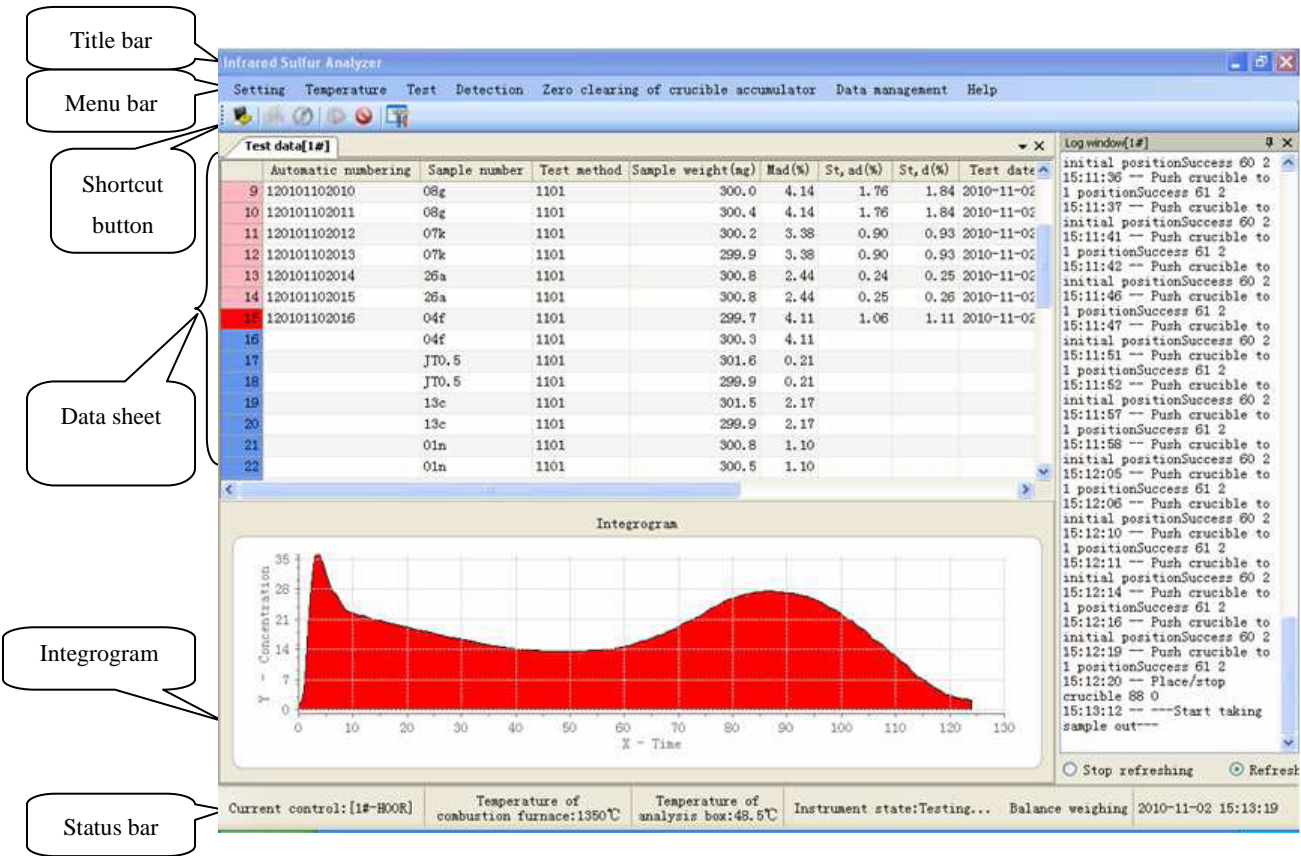

Fig. 4-1
**Method 1:** on the taskbar, click “Start”→ “Program” → select “MRC” → click “ELan-12 infrared sulfur analyzer”, and enter into main interface shown in Fig. 4-1.
**Method 2:** double click “ELan-12 infrared sulfur analyzer” icon on desktop, also can enter into measurement state as shown in Fig. 4-1.
The main forms of the measurement & control software of ELan-12 infrared sulfur analyzer consist of title bar, menu bar, shortcut button, status bar, data sheet etc. Every line in the data sheet can be dragged and placed at will for convenient viewing. Shown in Fig. 4-1: